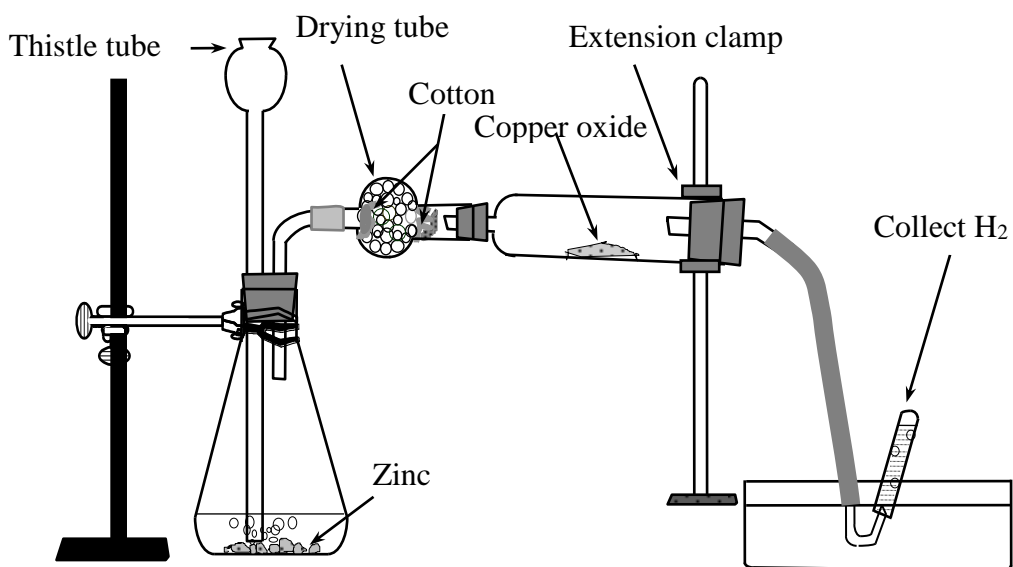

Figure 1-1 Collect hydrogen gas over water
5.	Set up the apparatus (Fig. 1-1). Adjust the thistle tube such that the end of the glass pipe nearly touches the bottom of the flask. Note 1: Adjust the height of the thistle tube by rotating its glass pipe, with a piece of dishcloth wrapped around it. Note 2: Wet the rubber tube with water before connecting it to the drying tube.